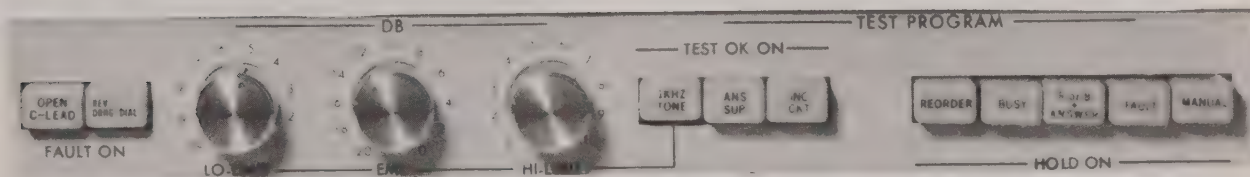

Fig. 7—Test Program Controls
3.10 Test program controls determine (a) the test faults the Model 41-3A is programmed to detect, and (b) under what conditions, if any, the 41-3A halts and holds a line under test for troubleshooting. These programming controls are shown in Fig. 7.